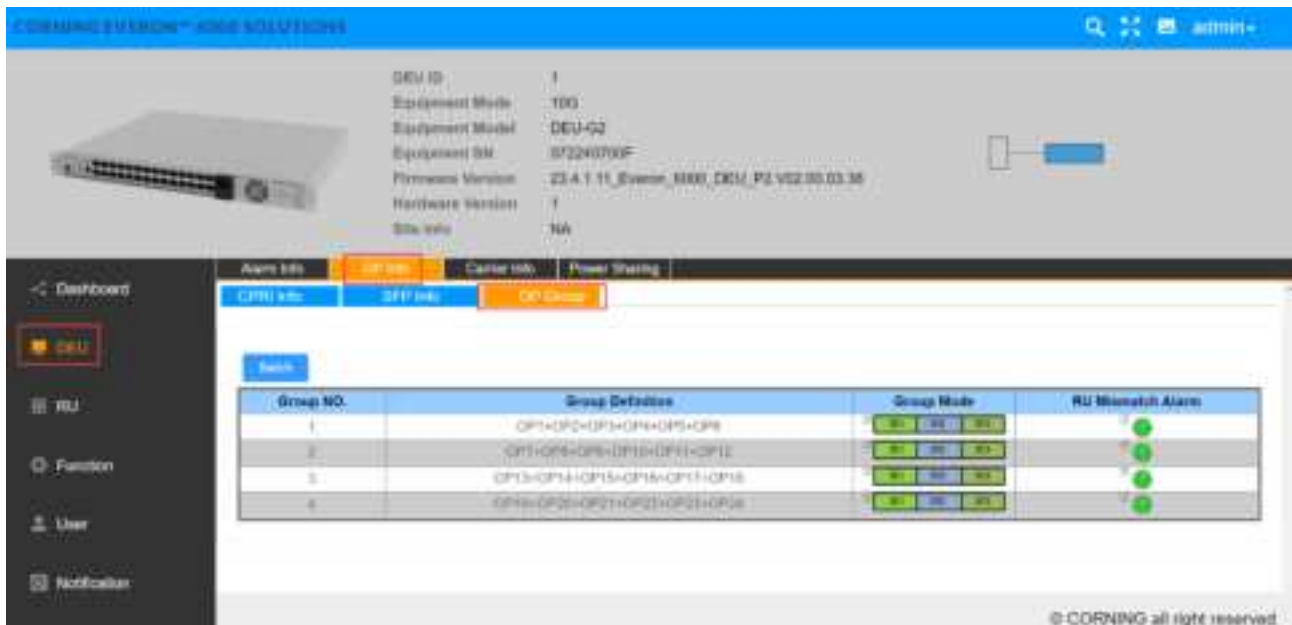

Figure 154. DEU 10G OP Info OP Group
- a. For the port configuration of 10G DEU, we design the new GUI for the various SFP port config. It supports 3 configuration mode on each 6 SFP ports (Group). Click **DEU** **OP Info** **OP Group** to configure SFP port as shown in Figure 154.